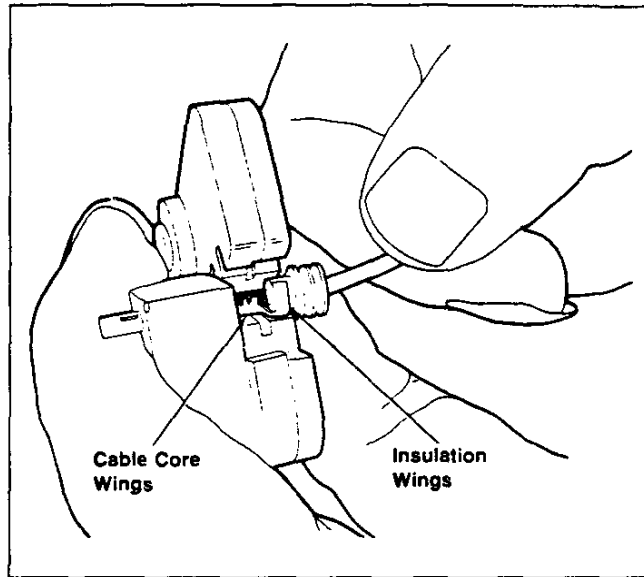

Figure 45
2. Insert the cable into the terminal until the stripped portion is positioned in the cable core wings, and the seal and insulated portion of the cable are in the insulation wings (Fig. 45).